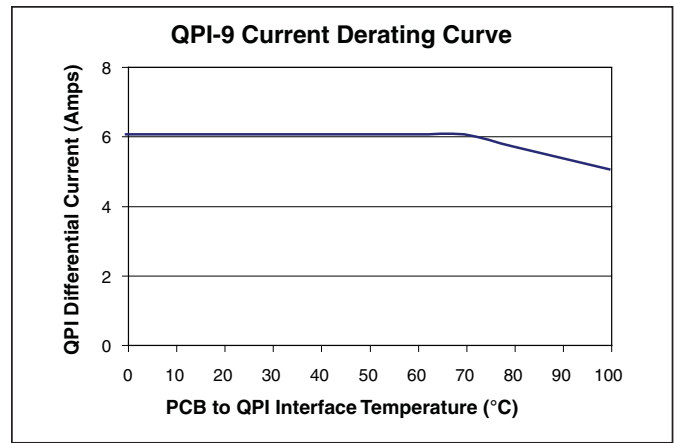

Figure 5 – QPI-9 current derating curve over temperature.
- -40° to +100°C PCB temperature (See Fig. 5)
Note 3: Refer to Figure 5 for current derating curve.
The QPI-9's high-temperature rating of 6 amps provides filtering for up to 144 W of power from a 24 V bus with a 70°C PCB temperature. The 1.0" x 1.0" x 0.2" surface mount LGA package provides ease of manufacturing by eliminating thru-hole assembly. The current derating curve, shown in Figure 5, should be used when the PCB temperature that the QPI-9 is mounted to exceeds 70°C.